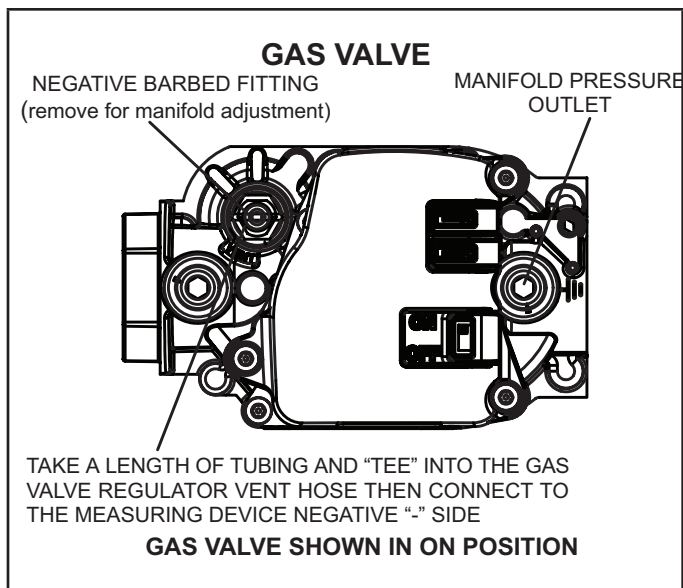

FIGURE 1
- 2 - Remove the heating compartment access panel. Turn the automatic gas valve switch to the OFF position. "FIGURE 1".
- 6 - Move gas valve switch to **OFF**. See "FIGURE 1".
- 7 - Wait five (5) minutes for any gas to clear out. If you then smell gas, **STOP!** Immediately call your gas supplier from a neighbor's phone. Follow the gas supplier's instructions. If you do not smell gas, go to the next step.
- 8 - Move gas valve switch to **ON**. See "FIGURE 1".
When testing supply gas pressure, use the 1/8" N.P.T. supply line tap located on the gas valve to facilitate test gauge connection. See "FIGURE 1". Check gas line pressure with unit firing at maximum rate. Low pressure may result in erratic operation or underfire. High pressure can result in permanent damage to gas valve or overfire.
When testing manifold gas pressure, use the 1/8" N.P.T. plugged tap (manifold pressure outlet) located on the gas valve to facilitate test measuring device. See figure 1.
- 7 - Remove the negative barbed fitting as shown in figure 1 and using a screw driver make adjustment to increase or decrease manifold pressure.